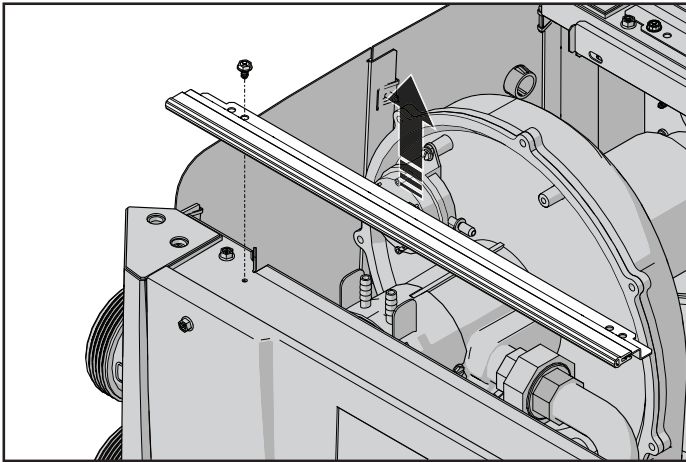

Figure 26. Remove Gasket Retainer Bracket
8. Remove one screw to take off the gasket retainer bracket (Figure 26).